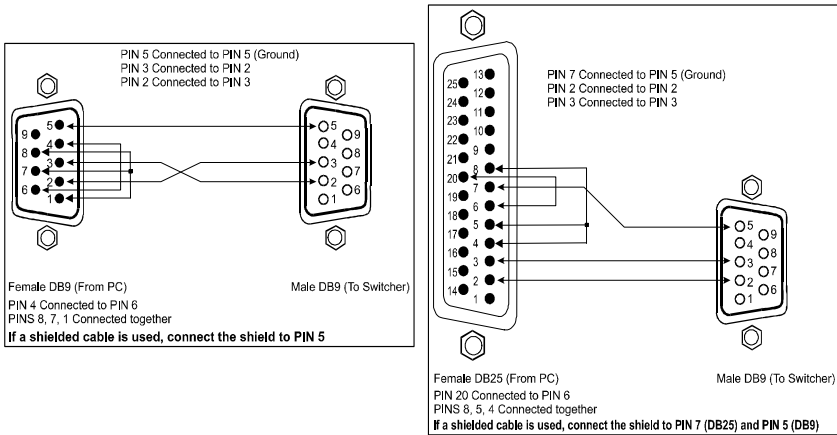

Figure 10: Connecting a PC without using a Null-modem Adapter
- Connect the RS-232 DB9 port on your PC to the RS-232 DB9 rear panel port on the **VP-88ETH** unit, as Figure 10 illustrates² (depending on whether the PC has a 9-pin or 25-pin connector)